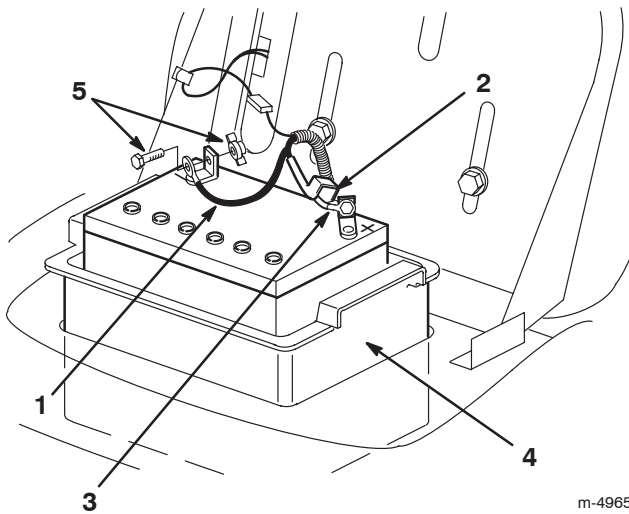

Figure 25
4. Disconnect the negative (black) ground cable from the battery post (Fig. 25).
- Slide the rubber cover up the positive (red) cable. Disconnect the positive (red) cable from the battery post (Fig. 25).
- Remove the battery box and battery from the chassis (Fig. 25).
- Put the battery into the battery box and install it into the chassis (Fig. 25).
- Using the bolt and wing nut, connect the positive (red) cable to the positive (+) battery post (Fig. 25). Slide the rubber cover over the battery post.
- Using the bolt and wing nut, connect the negative (black) cable to the negative (-) battery post (Fig. 25).